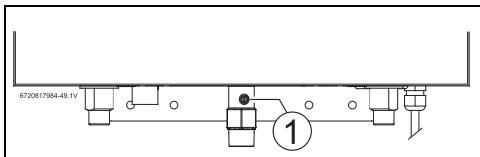

Fig. 36 Gas pressure test port
- ▶ Locate the inlet gas pressure test port (see Fig. 36).
- ▶ Loosen the screw inside test port fitting (do not remove) and connect the manometer tube to the test port (see Fig. 36).